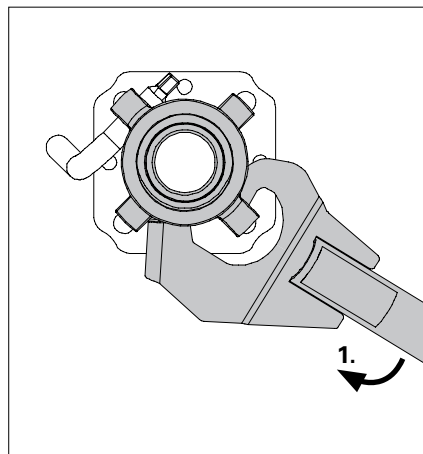

Fig. A2.03
- Wingnut Spanner PEP Item no. 118345 (Fig. A2.03/A2.03a)